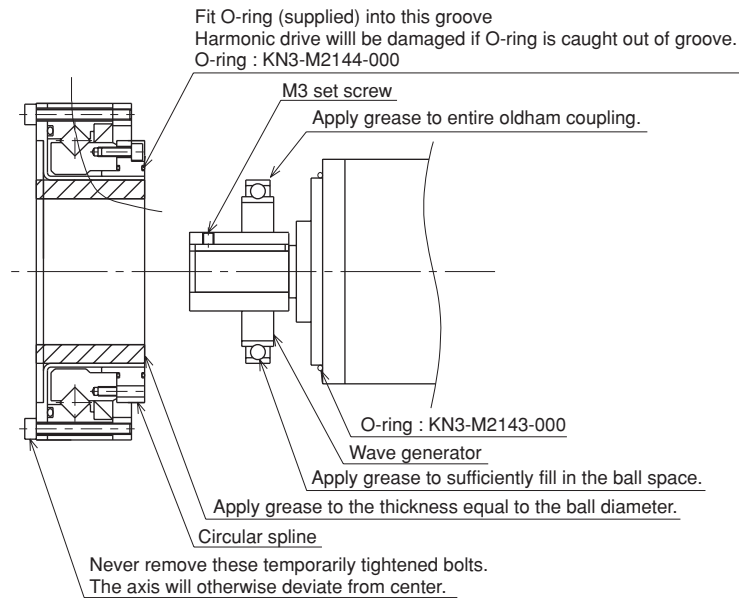

Fig. 5-6
- 10) Remove the wave generator from the motor shaft. The wave generator is secured with an M3 set screw. (See Fig. 5-6.)
See Fig. 5-6 for applying grease properly.
- 15) Fit the wave generator onto the motor shaft and fully insert it against the motor. Then, apply small amounts of "Screw Lock" to the M3 set screw (1 piece) you removed earlier and tighten it to secure the wave generator. (See Fig. 5-6.)